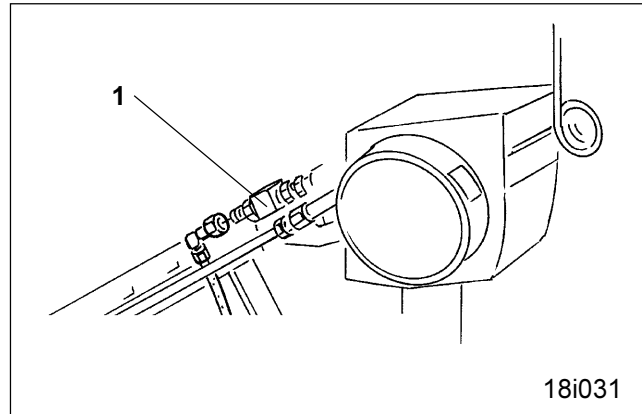
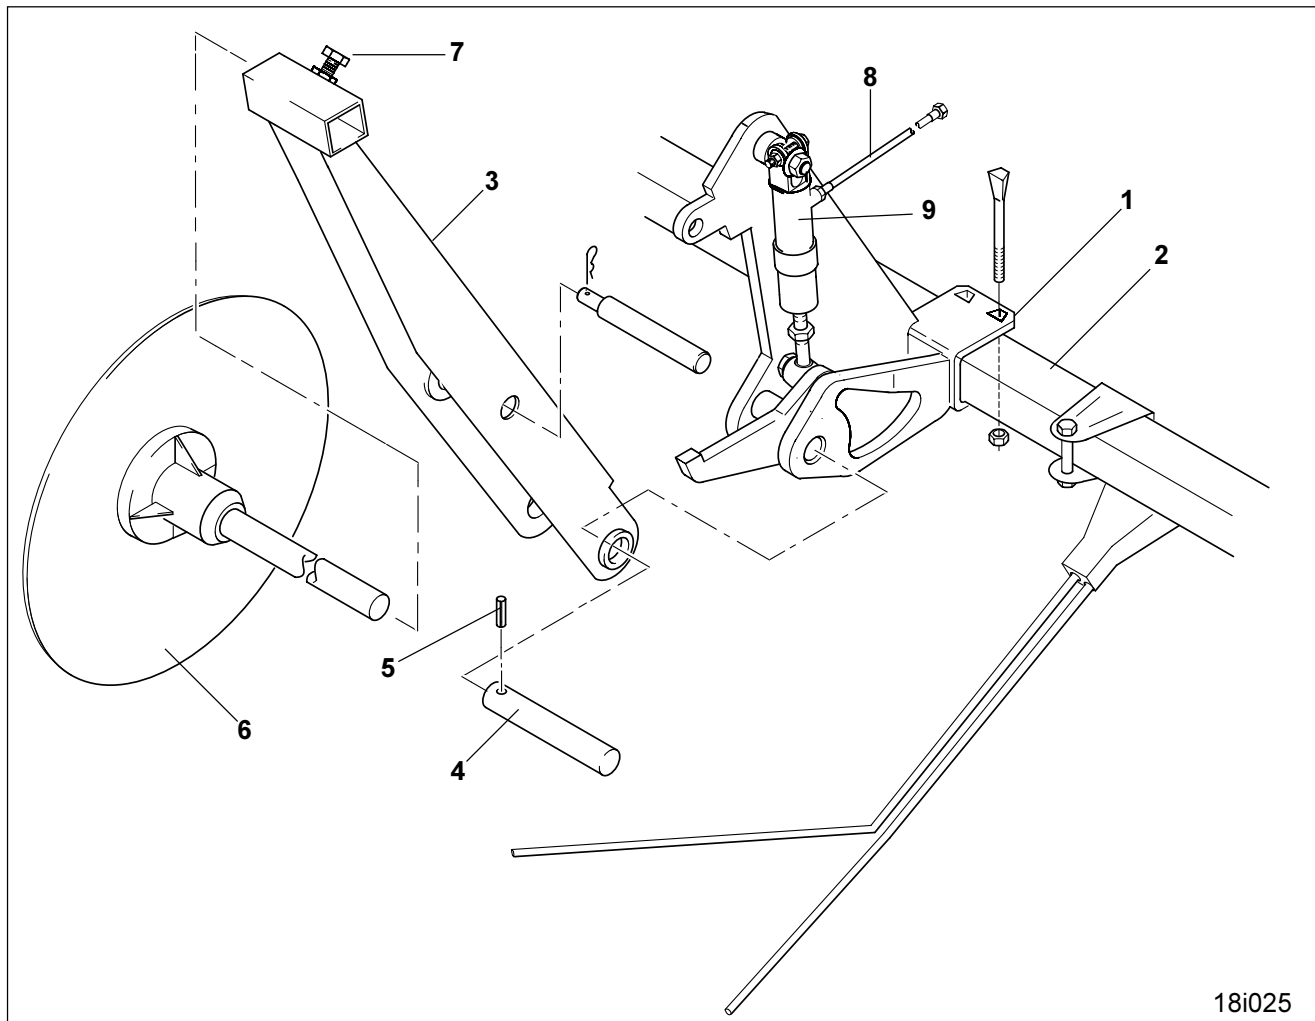

Fig. 19.4
Fig.19.3
- Attach two fixing brackets (Fig. 19.3/1) to the extra coverage following harrow.
- Mount the marker disc carrier arm (Fig. 19.3/3) by means of the pins (Fig. 19.3/4) and secure with the expansion pin (Fig. 19.3/5).
- Insert the marker discs (Fig. 19.3/6) into the marker disc carriers (Fig. 19.3/3) and clamp by using hex. bolts (Fig. 19.3/7).
- Connect the hydraulic hoses (Fig. 19.3/8) to both hydraulic rams (Fig. 19.3/9).
- A control valve (Fig. 19.4/1) has been fixed to the switch box of the tramlining control switching box. Bring together the hydraulic hoses (Fig. 19.3/8) on a T-connecting bracket and connect to the control valve (Fig. 19.4/1).